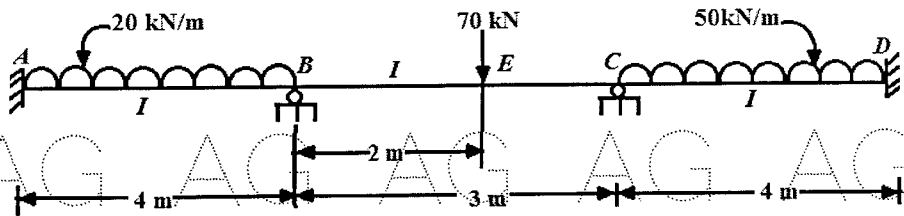

Figure 4
6. Let us consider the continuous beam as discussed in example. The beam is shown in figure 4. In this beam the support B sinks by 15 mm; $E = 200 \text{ kN/mm}^2$, and $I = 150 \times 10^6 \text{ mm}^4$. Using the Kani's method, determine the end moments. [10]